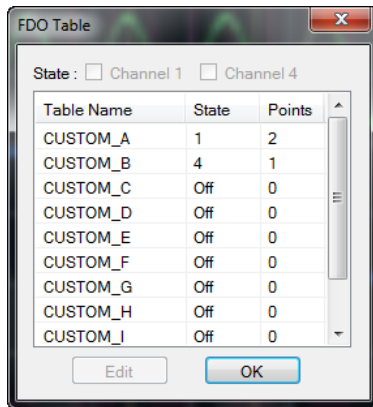

Figure 2-54 FDO Table dialog
- 2 The FDO Table dialog is displayed as shown in Figure 2-54 to allow you to select and configure the FDO table.